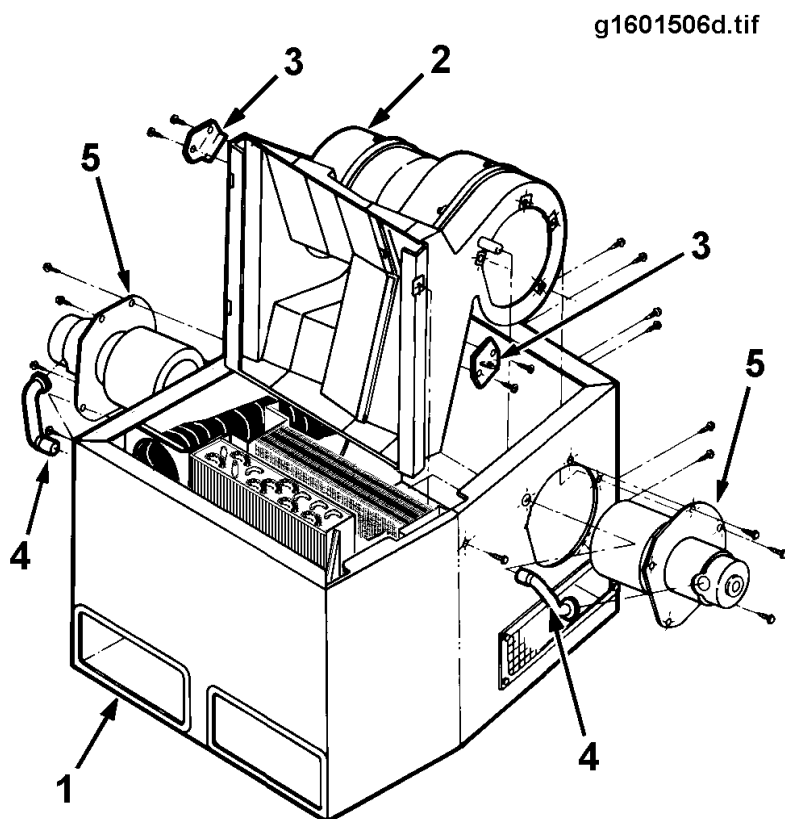

Figure 18 Blower Assembly Exploded View
5. Disconnect the motor cooling air hose (vent) from the blower housing (Figure 18).
2. Install the blower motor assembly in the blower housing and install the mounting screws (Figure 18).
3. Disconnect the wiring harness connectors from the blower resistors (Figure 18).
1. Position the resistor in the housing. Make sure the resistor terminal locations correspond with the wiring harness terminals. Install the mounting screws (Figure 18).
3. Disconnect the harness and remove the two blower resistors (Figure 18).
6. Remove the blower housing mounting bolts (Figure 18).